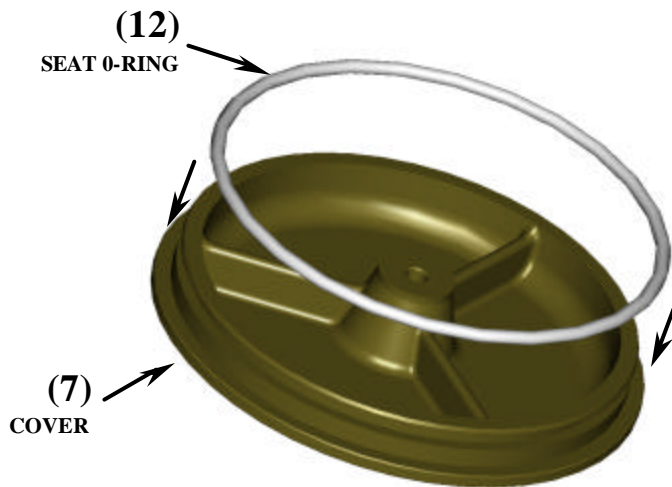

Figure 11
- 2.1 Snap the *Seat O-Ring (12)* into the groove in the *SSRV Cover (7)*. Figure 11